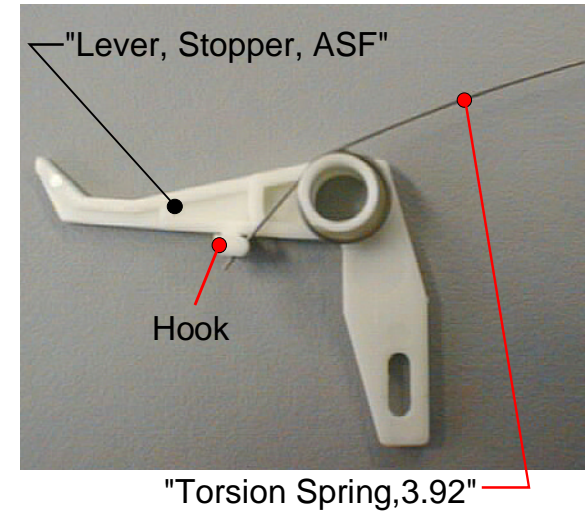

Figure 4-102. Setting "Lever, Stopper, ASF"
20. Install "Torsion Spring,3.92" to "Lever, Stopper, ASF". Hang the tip of the shorter leg to the hook of "Lever, Stopper, ASF". (Refer to Figure4-102)